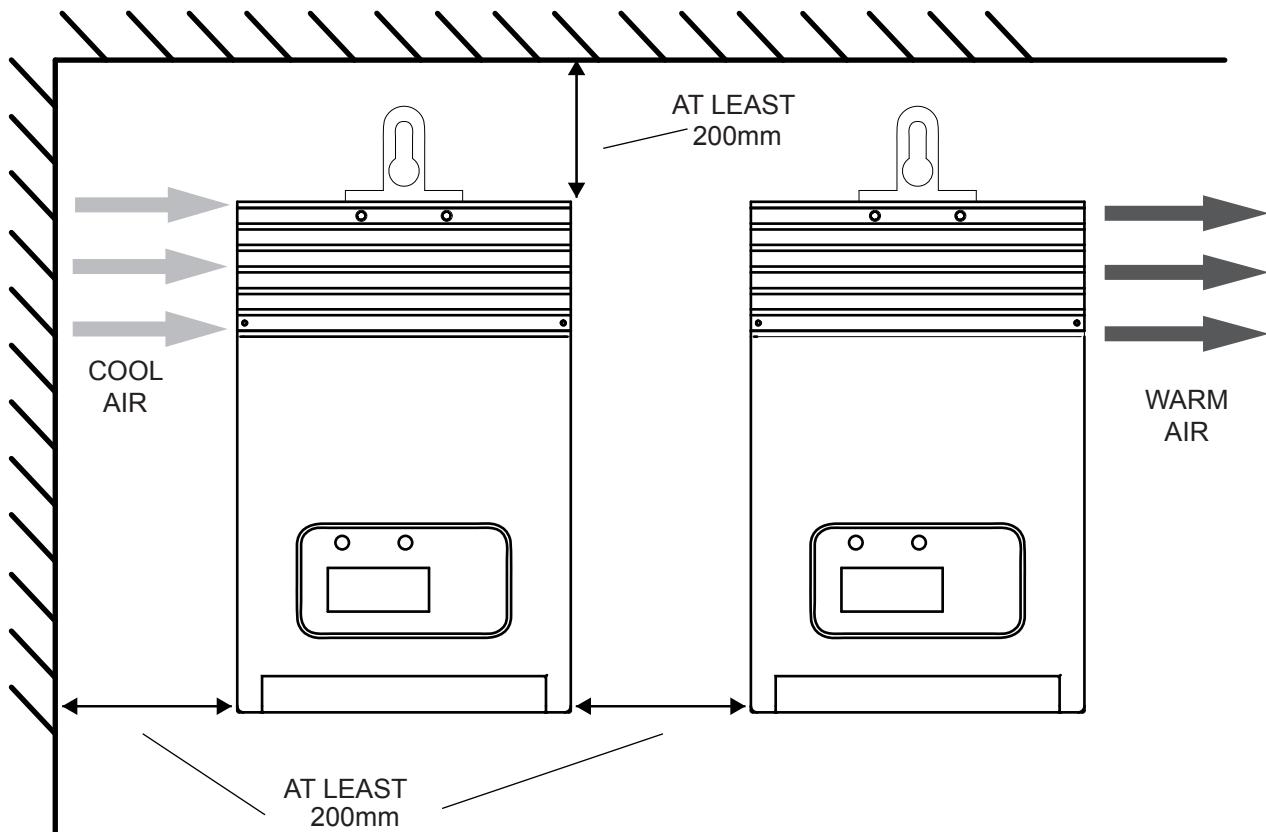

Figure 3-2. Required mounting clearance for air flow.
2. Place the MPPT on a vertical surface protected from direct sunlight, high temperatures, and water. The MPPT requires at least 150 mm of clearance right and left. flow as shown in figure 3-2 below.